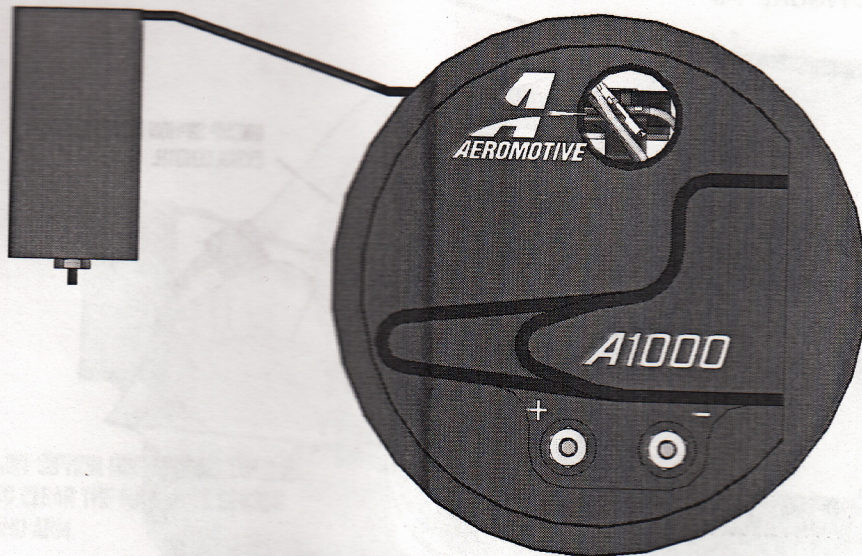

FIGURE 1-6
13. When assembling the unit index the leveling unit with the top plate illustrated below in **FIGURE 1-6**.